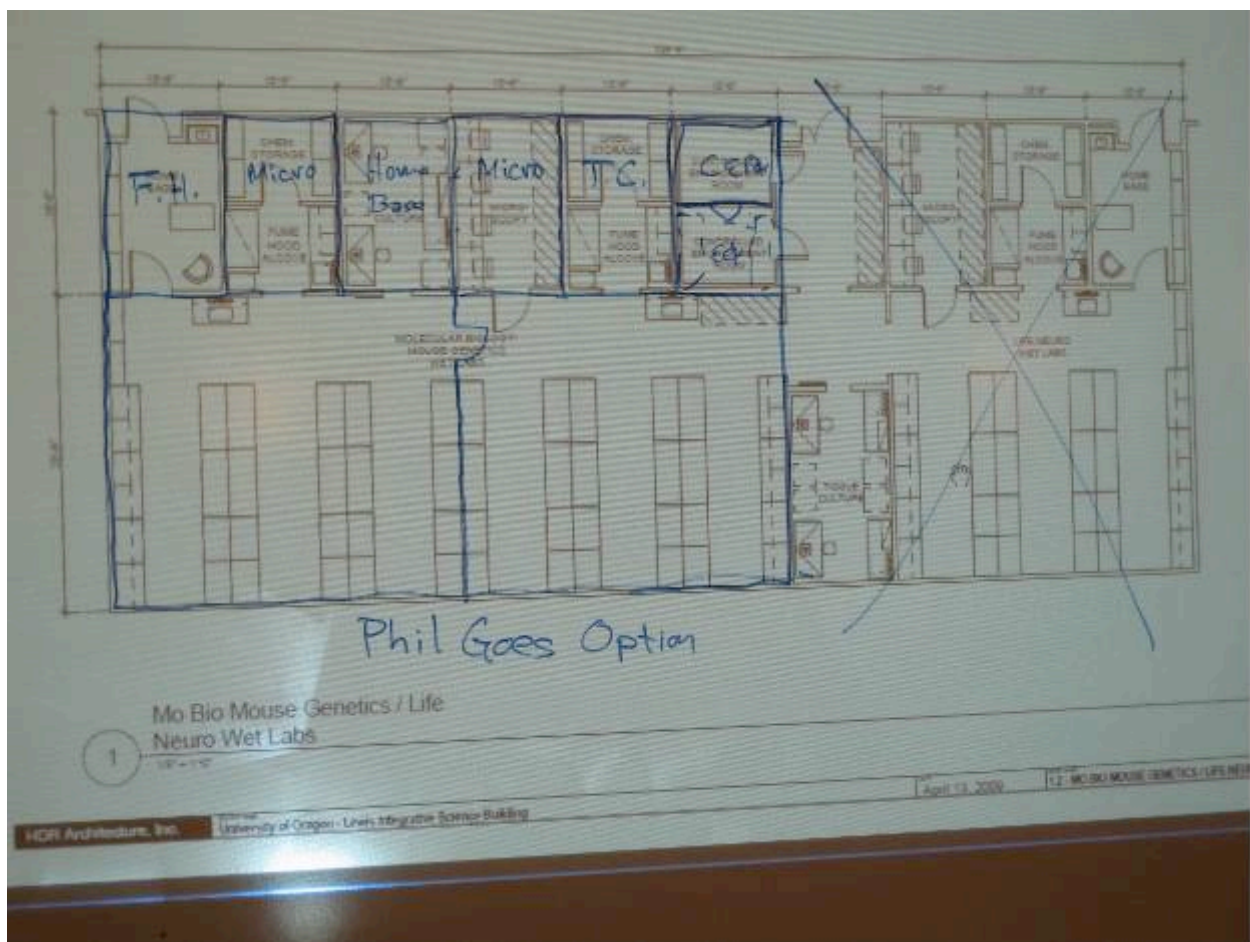

Figure 1
3. Controlled Environment Rooms: There should be two, (1) Cold Room @ 4°C and (1) Warm Room @ 37°C. Cliff was pushing for (2) CER's, but the users may be able to suffice with one.
5. There should be (2) 6' Biological Safety Cabinets for each Tissue Culture Lab.
7. Mo Bio (6) Module laboratory (Phil Goes Option) - *refer to Figure 1*